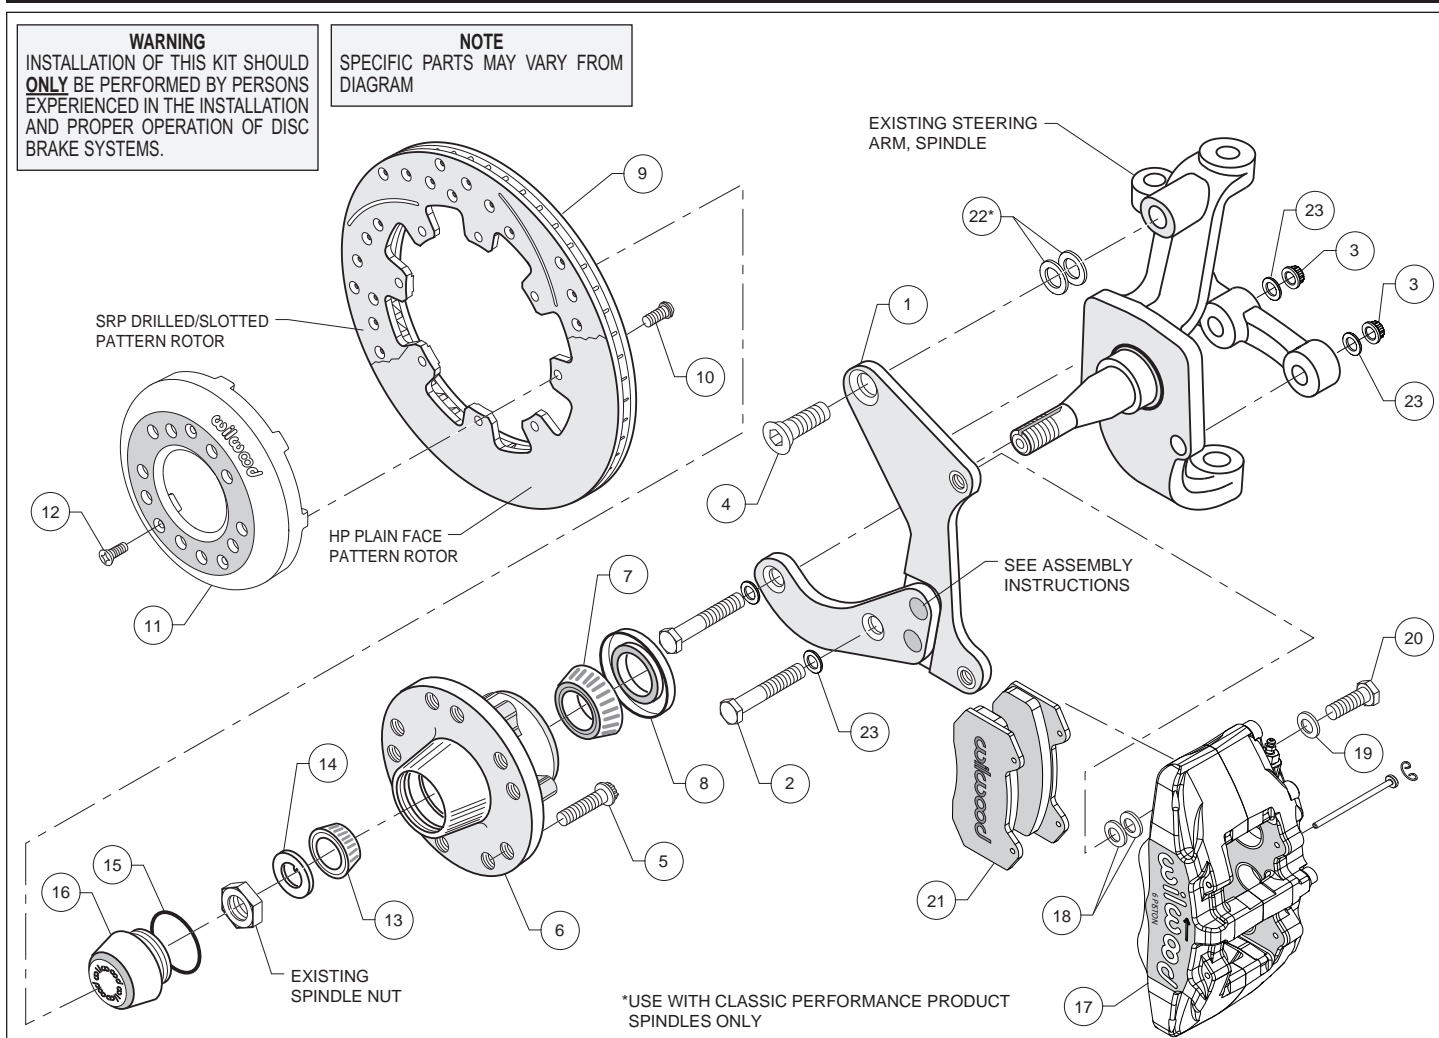
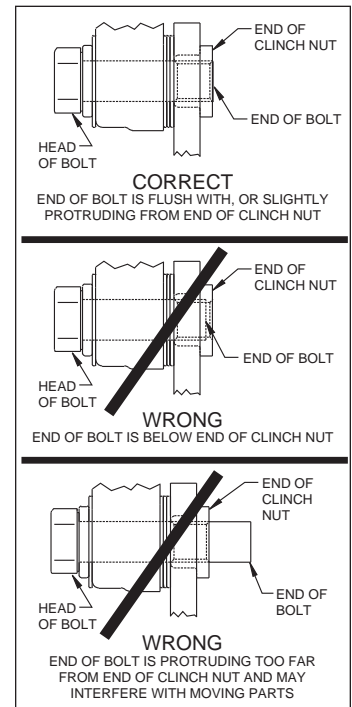

Figure 1. Typical Installation Configuration
Figure 3. Clinch Nut Engagement Diagram
**Assembly Instructions** (numbers in parenthesis refer to the parts list and Figure 1 on the preceding pages): **CAUTION:** All mounting bolts must fully engage clinch nuts. Be sure to check that all bolts are either flush or protruding through flanged side of clinch nut after shimming, Figure 3.
•The caliper mounting bracket (1) has been assembled at the factory for alignment purposes. Loosen the two bolts that secure the brackets together so that the bolts are hand tight only, this will enable the bracket assembly to be adjusted to accommodate various spindle tolerances during assembly. Orient the bracket as shown in Photo 1 and Figure 1, and install to lower mount holes using bolts (2), washers (23), and lock nuts (3), Figure 1 and Photo 1. Do not tighten yet.
•**For Classic Performance Products spindles only:** Initially use two .024" thick shims (22) on upper mount bolt between bracket and spindle, Figure 1. While test fitting bracket assembly per the instructions below, check that the bracket is parallel to the rotor. If not, add or subtract shims (22) between the bracket and spindle.
•Install bolt (4) in the upper bracket hole. Temporarily tighten all of the bracket mounting bolts. Ensure that the flanged heads of the clinch nuts in the bracket are facing outboard, Photo 1. **NOTE:** The bracket must fit squarely against the mounting points on the spindle. Inspect for interference from casting irregularities, machining ridges, burrs, etc. Torque lower lock nuts to 47 ft-lb. Remove the upper bolt, apply red *Loctite*® 271 to threads, and torque to 140 ft-lb. Remove one at a time the bolts that secure the bracket assembly to each other, apply red *Loctite*® 271 to the threads and torque to 40 ft-lb.
•Install wheel studs (5) into the hub (6), Photo 2 and Figure 1. Torque to 77 ft-lb. **NOTE:** There are two five lug patterns in the hub (5 x 4.50 and 5 x 4.75). Ensure the correct hub stud pattern is being used to fit the wheel application.
•Pack the large inner bearing cone (7) with high temperature disc brake bearing grease (available from your local auto parts store) and install into the backside of the hub (6), Photo 3.
- Orient the rotor (9) and the hat (11) as shown in Figure 1. Attach the rotor to the hat using bolts (10). Using an alternating sequence, apply red *Loctite*® 271 to the threads, and torque to 25 ft-lb.
- Slide the rotor/hat assembly over the hub (6) taking care to align the small countersunk holes in the hat (11) with the small threaded holes in the hub. Install three flat head screws (12) through the small holes in the hat and torque to 85 in-lb.
- NOTE:** Please reference the caution statement at the beginning of the assembly instructions. This kit contains distinct right and left hand calipers that must be mounted in a specific direction, as described below. Mount the caliper (17) onto the caliper bracket (1) using bolts (20) and washers (19). Initially place two .035" thick shims (18) on each bolt between the caliper and the bracket, Photo 6. Ensure that the caliper is mounted so the largest pistons are at the rotor exit end of the caliper, in relation to the direction of rotor rotation. Temporarily tighten the mounting bolts and view the rotor (9) through the top opening of the caliper. The rotor should be centered in the caliper, Photo 7. If not, adjust by adding or subtracting shims on each of the two mounting bolts. **NOTE:** The end of the bolt must be flush with or slightly protruding from the head of the clinch nut. If necessary, place spare shims between the washer and the caliper mounting ear to achieve the proper clinch nut engagement, as shown in Figure 3. Always use the same amount of shims on both the top and bottom caliper mounting bolts. Once the caliper alignment and clinch nut engagement are correct, remove the mounting bolts and caliper.
- Remove the two pad retaining pins from the caliper (17) by carefully popping out the pin retaining clips and sliding out the pins. Insert the brake pads (21) into the caliper from the bottom, Figure 1 and Photo 8, with the friction material facing the rotor. Secure the brake pads in place with the pad retaining pins and clips, Photo 9. Reinstall the caliper onto the caliper mounting bracket. Apply red *Loctite*® 271 to bolt threads (20), and torque to 40 ft-lb.